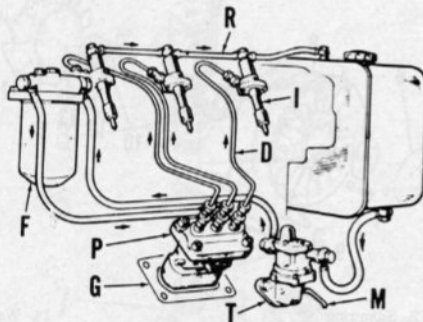
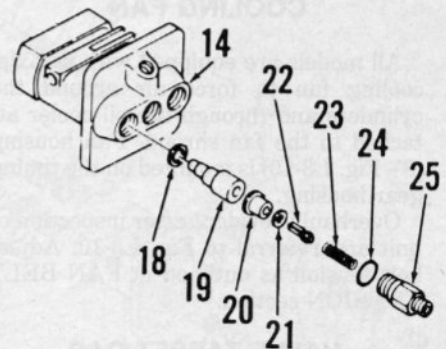

Fig. L3-5—Fuel circuit diagram for Models 833 and L40. Models 832 and L27 are similar.
Fig. L3-9—Partial exploded view of fuel injection pump used on all models except 834 and L54.
To bleed fuel system on all other models, loosen bleed screw on fuel filter housing then operate primer (M—Fig. L3-5) on fuel transfer pump until air-free fuel flows. Retighten bleed screw. Open injection pump bleed screw, on models so equipped, or loosen inlet fuel line fitting at injection pump. Operate primer (M) until air-free fuel flows, then tighten bleed screw or fuel fitting. Loosen high pressure line fittings at injectors. Rotate engine to operate fuel injection pump until air-free fuel flows then retighten fittings.
Fuel injection occurs between 25° and 26° 5'. Injection timing is adjusted using shim gaskets (G - Fig. L3-5) between pump body and mounting surface on crankcase. To check injection timing, unscrew number 1 cylinder delivery injection line (D) fitting from delivery valve holder (25 - Fig. L3-9). Unscrew
gaskets (G-Fig. L3-5); install shim gaskets to retard injection timing. Reinstall removed pump parts after checking timing. Tighten injection pump retaining screws to 29.4 N·m.